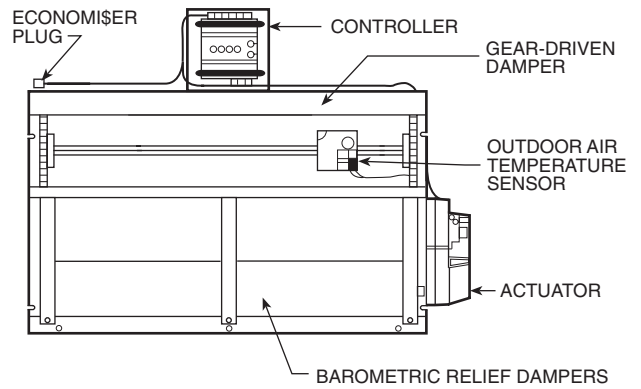

Fig. 26 — EconoMi\$er Component Locations
OPTIONAL ECONOMISER — See Fig. 26 for EconoMi\$er component locations.
Controller should be mounted in vertical position as shown in Fig. 26.
3. Replace the filter access panel. See Fig. 26. Ensure the filter access panel slides along the tracks and is securely engaged.